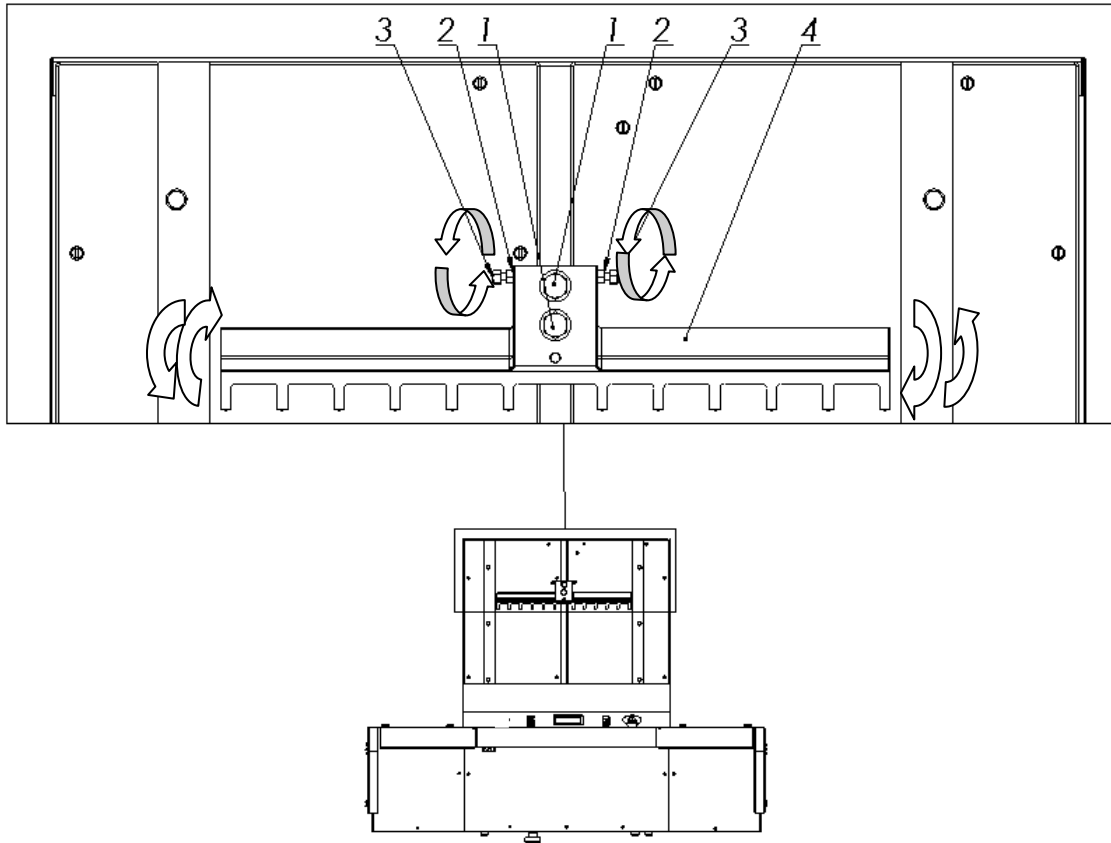

Figure 41. Adjusting elements of backgauge
3. loosen the screws 1 (fig.41)
4. loosen the nuts 2 (fig.41)
5. by turning the screws 3, place the approaching beam 4 (Fig. 41) at the right angle
6. lock the adjustment screws with 3 nuts 2 (fig.41)
7. firmly tighten the screws 1 (fig.41)